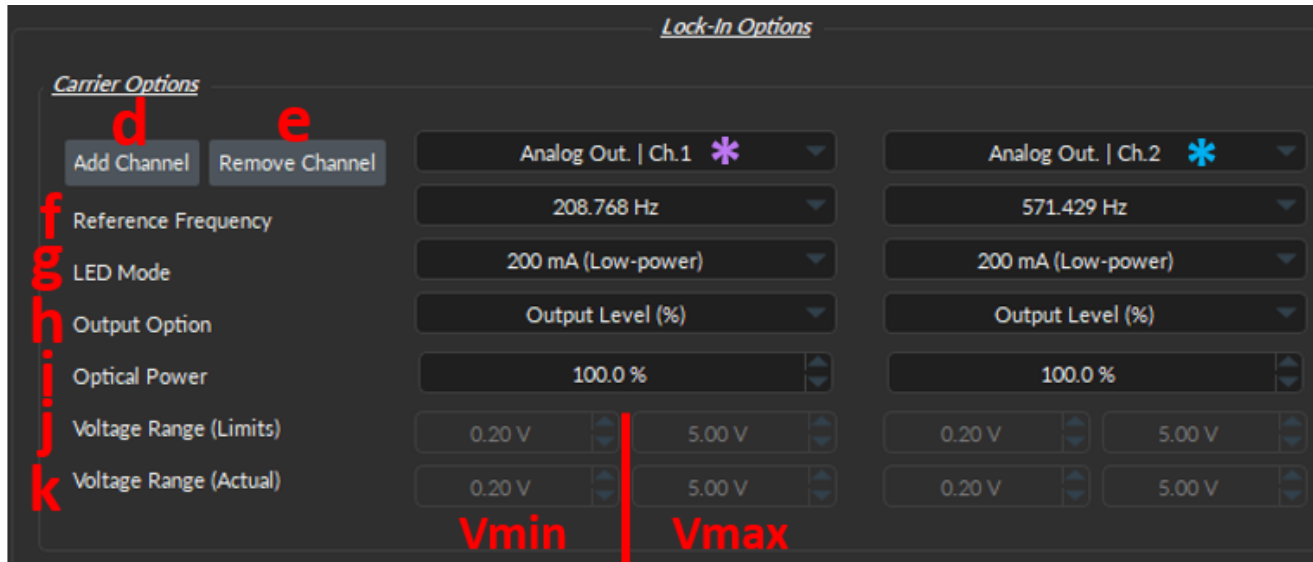
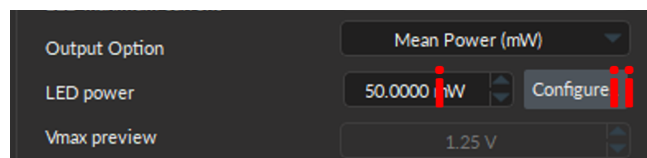
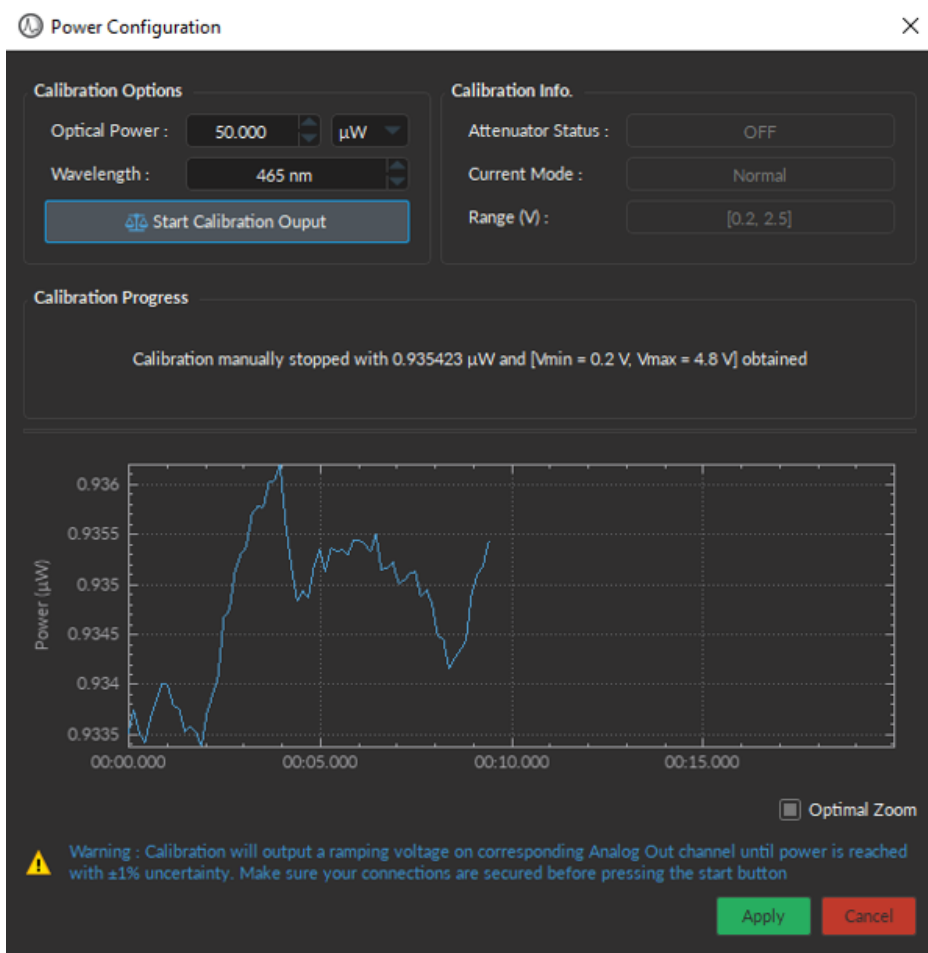

Figure 16.81: Lock-In Settings, Carrier Options
Figure 16.83: Output Options, Mean Power
Figure 16.85: Output Options, Power Calibration
- d) The **Add Channel** (Fig. 16.81, d) creates a new **Analog Output** channel column that will be used to drive the LED excitation required for the *LockIn* preset configuration. At least one channel must be added in the **Lock-In Options**.
- e) The **Remove Channel** (Fig. 16.81, e) deletes the most recently added **Analog Output** channel (right-most column) from the **Lock-In Options**.
- f) The **Reference Frequency** (Fig. 16.81, f) specifies which of eight different preset frequencies will be used as the oscillating **Analog Output** signal to drive the LED excitation. These **Reference Frequencies** have been carefully chosen to prevent cross-talk between multiple LED excitations related to the same **Analog Input** channel, and common noise sources (e.g. ambient light).
- g) **LED mode** (Fig. 16.81, g) is the largest current that the LED can handle. This value should be set either to the iFMC-G3 mode (required for G3 Photometry mini-cubes), the **200mA (Low Power)** mode (recommended for G1 & G2 mini-cubes) or, based on the intrinsic maximum current of the LED in use (500 mA or 1000 mA, depending on the type of LED).
h) The **Output Option** (Fig. 16.81, h) selects the unit used to set the **LED Power**. The following options are available:
- **Power (uW/mW)** - directly uses the target power (in microwatts). **Only available when the PRONTO-Si power meter is connected to the computer**. To ensure an accurate target value, individually **calibrate** the fiber for each excitation wavelength of light every time this target is changed using the button in Fig. 16.83, ii. This opens a **Power Configuration** window in Fig. 16.85, where both the **target Power** and the correct **Wavelength** of the LED must be specified before calibration.
i) **Optical power** (Fig. 16.81, i) converts either the specified percentage (**Output Level (%)**) or directly the target value in microwatts (**Mean Power (uW/mW)**, Fig. 16.83, i) into the output voltage that will be sent to the **LED Driver**, displayed in **Voltage Range (Actual)** (Fig. 16.81, j). **If you are using GCaMP and its isosbestic, we recommend that the isosbestic be about half the power of the GCaMP demodulated trace to reduce the risk of photobleaching.**
- **Configure** button (Fig. 16.83, ii) - opens the **Calibration** window (Fig. 16.85) where the target **Power** (in microwatts) and **Wavelength** of the excitation LED is specified, and the **Start Calibrating Output** button is located. The graph in Fig. 16.85 shows a successful calibration, where there is an initial rise in power, followed by an oscillation until the signal converges (flattens) to the target value.
- j) **Voltage Range (Limits)** (Fig. 16.81, j)- automatically displays the maximum voltage based on the **LED Mode** (maximum current) and the **Optical Power** selected above (Fig. 16.81, i). **Vmax** (right column value) can be changed if the **Custom** LED maximum current mode is selected. The **Vmin** should never be below 0.2 V, nor the **Vmax** above 5 V.
- k) **Voltage Range (Actual)** (Fig. 16.81, k) - the default value is set to 0.2 V but can be changed if the **Custom** LED maximum current mode is selected. The **Vmin** should never be below 0.1 V.